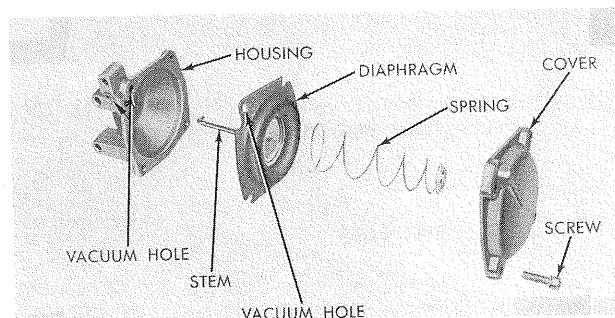

FIG. 36 Disassembly or Assembly of Secondary Vacuum Diaphragm
19. Disassemble the secondary diaphragm. **Loosen four screws carefully and free up cover to prevent catching edges of diaphragm in cover screws (Figure 36).**
ASSEMBLING SECONDARY DIAPHRAGM (Figure 36)